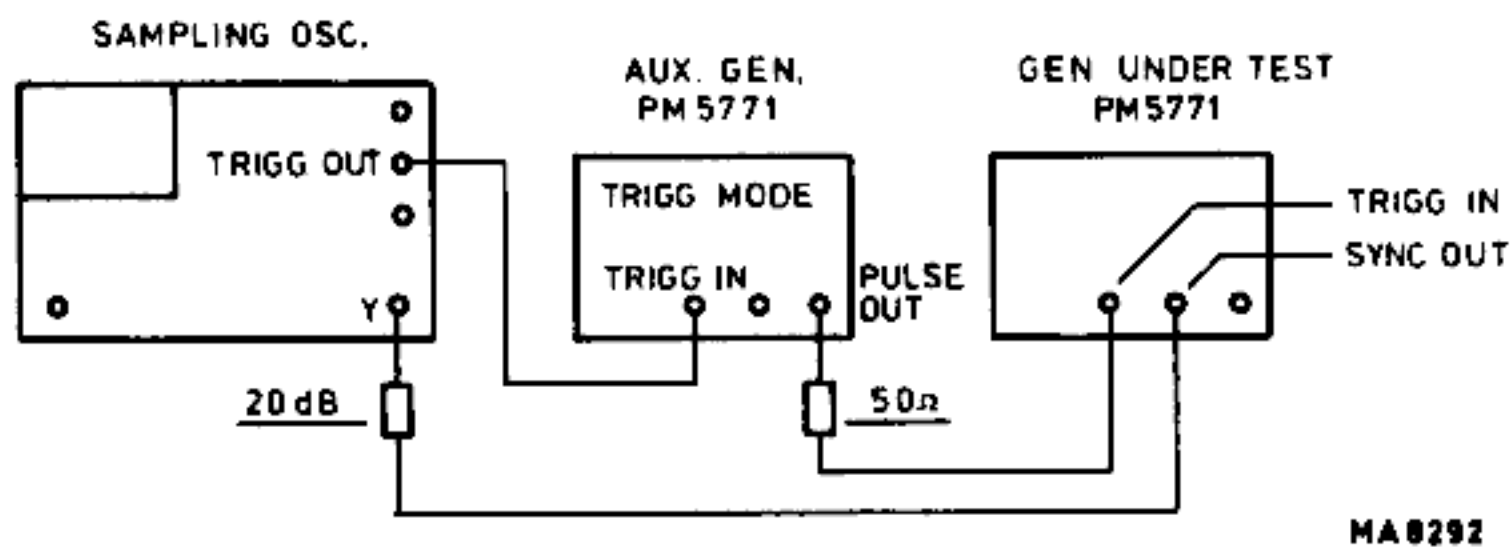

Fig. X-5. Set-up for calibration of repetition time
- Connect pulse generators and oscilloscope as shown in figure X-5